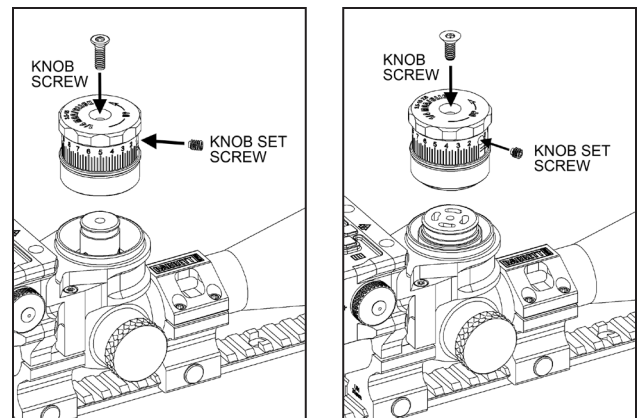

Figure 7.
6. Place the BORS elevation knob over the knob adapter. Ensure the knob is fully seated on the adapter then secure T25 knob screw to 15 in/lbs. and tighten the knob set screw to 12 in/lbs. Figure 7.